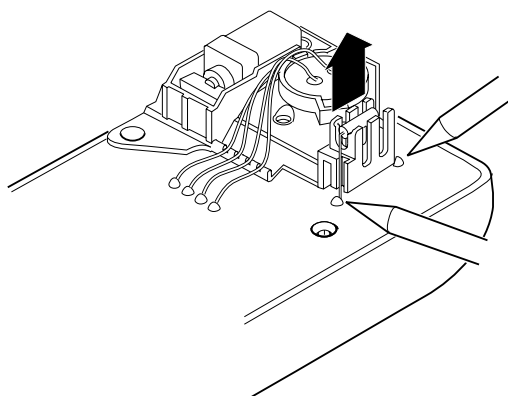

Figure 5: Reed-switch removal
5. (Figure 5) Unsolder and then remove the reed-switch from the vibrator/buzzer assembly.